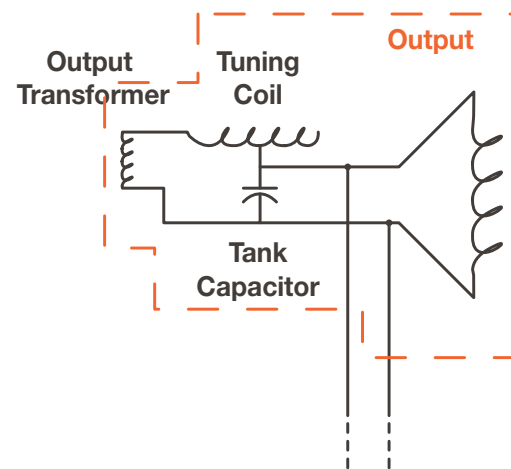

Figure 3-9: Output Circuit Block Diagram
**Figure 3-9** represents the output circuit block. The output circuit utilizes a paralleled tuned “tank” circuit consisting of an adjustable capacitor bank, an adjustable series inductor, as well as, the output inductor. The capacitance of the capacitor bank, as well as, the combined contribution of the series and output inductance determines the natural resonant frequency of the tank circuit. The resonant frequency must be within the range of the inverter for the VersaPower® Xtreme™ to operate. Output voltage is measured here and fed back to the control system. The output inductor is attached to the terminals of the parallel “tank” circuit via the output inductor mount.